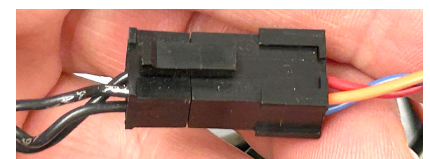

Figure 25
25. Connect the 8076535-coupler 6-pin CANBUS connector to the 6-pin CANBUS harness from the other controller (see Figure 25).